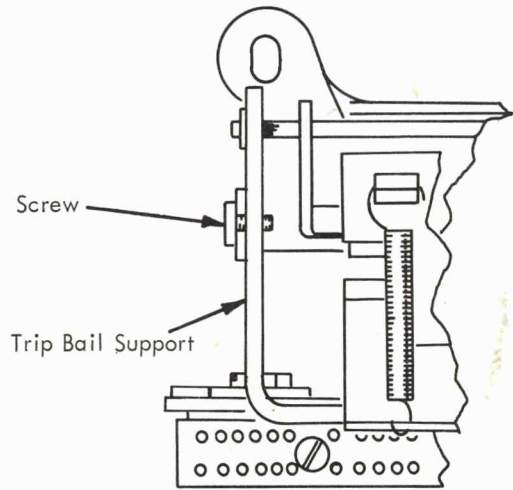

FIGURE 17.4 Trip Bail
- b. Loosen screw (Fig. 17.4).
- e. Tighten screw in Fig. 17.4.